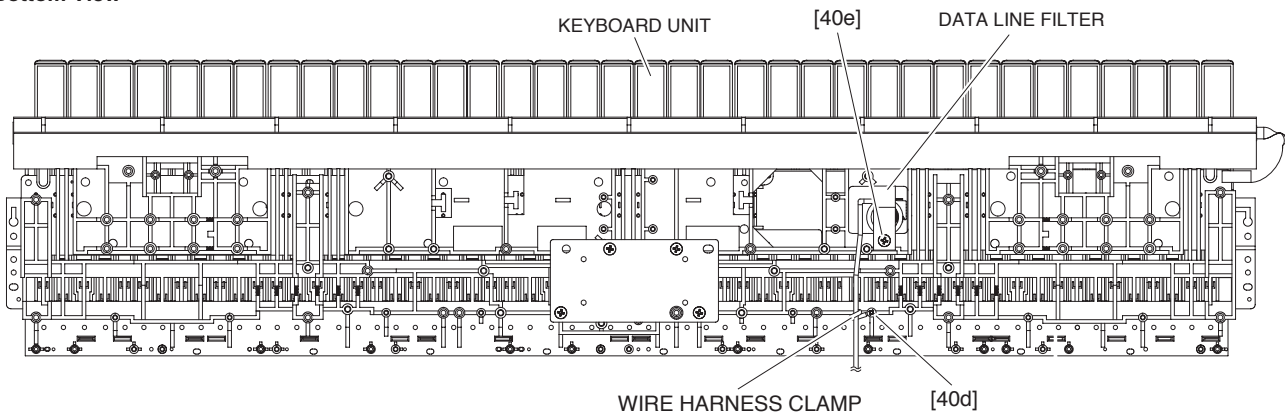

Fig. 18
- 25-3 Remove the screw marked [40d] and the screw marked [40e]. The data line filter and wire harness clamp can then be removed from the keyboard unit. (Fig. 18)